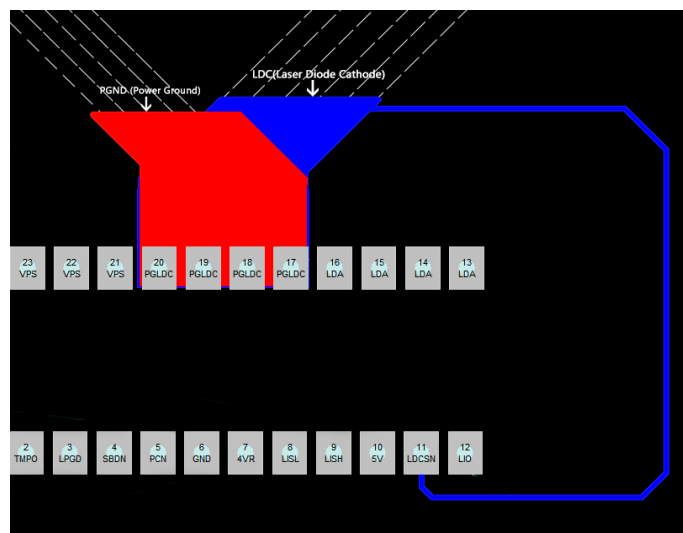
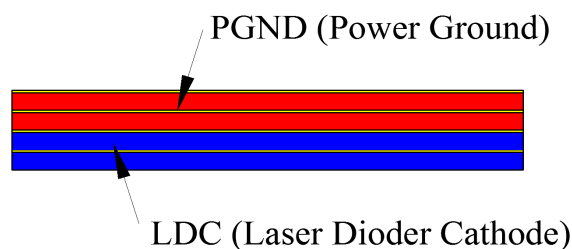
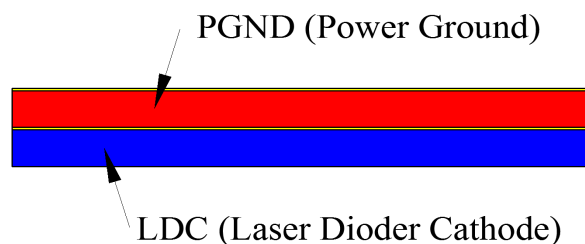

Figure 15. The Layout for the Two-Layer PCB
Figure 17. The Section View for the Four-Layer PCB
Figure 16. The Section View for the Two-Layer PCB
- 4. If the PCB is for mounting the laser driver. See the figures below for the layout of PGLDC pin. If the PCB has two layers, the top layer (red) is for routing PGND track, and the bottom one (blue) is for routing LDC track, see Figure 15. If the PCB has four layers, the top two layers are for routing PGND track, and the bottom two layers are for routing LDC track. The section views for two-layer and four-layer PCB's are shown in Figure16 and Figure 17 respectively.